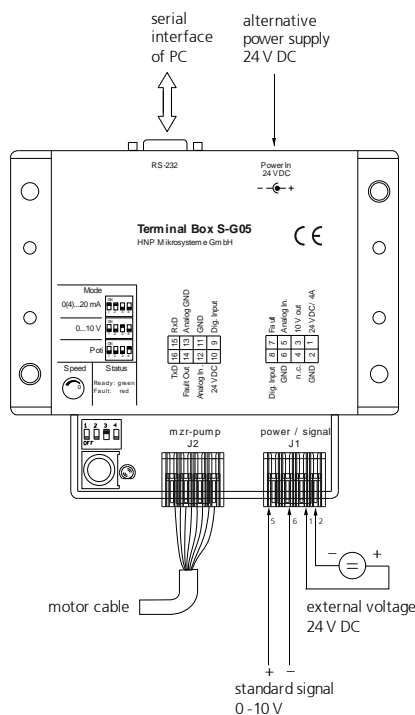

figure 14
4. Connect an external 0-10 V voltage supply to the terminal clamps »AnalogIn« and »GND« to the S-G05. (see figure 14)
4. Connect an external 0-10 V voltage supply to the terminal clamps »AnalogIn«, »10 V« and »GND« to the S-G05.(see figure 14)